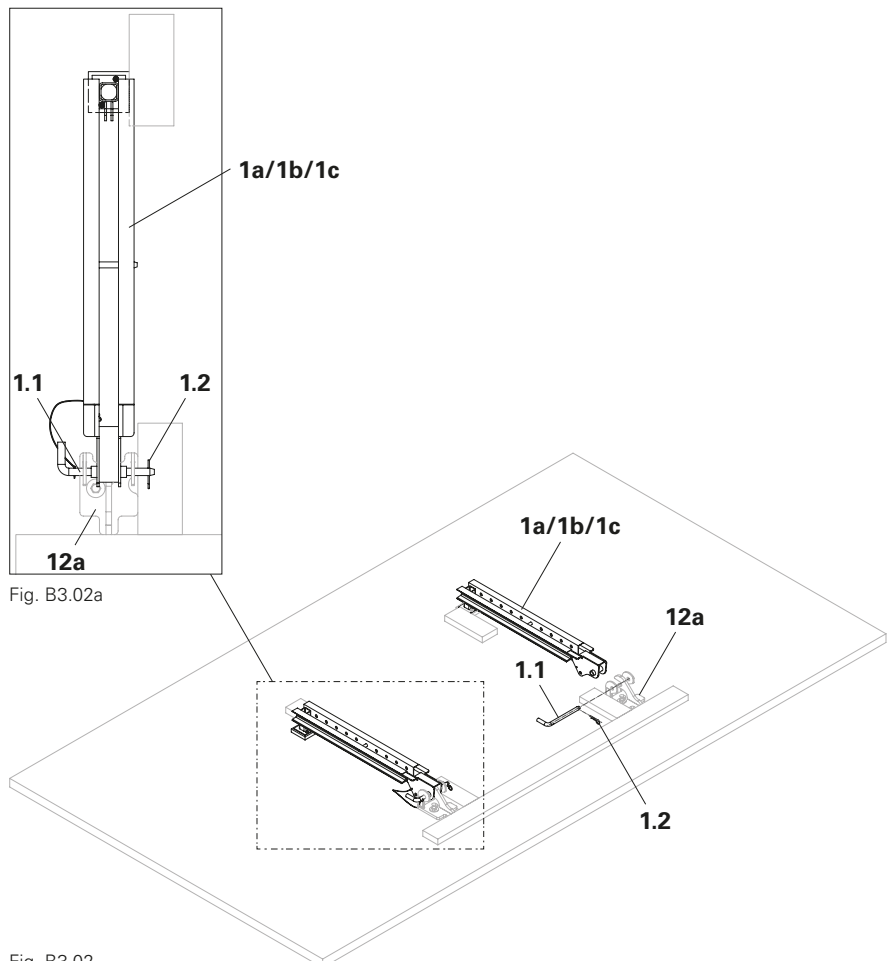

Fig. B3.02
1. Fit Bracket Post VGK (**1a/1b/1c**) onto Suspension Head VGK Flex (**12a**) with locking pin $\varnothing 20 \times 260$ mm (**1.1**), align and secure with Cotter Pin 4/1 ga (**1.2**). (Fig. B3.02 + Fig. B3.02a)
(Fig. B3.02 + Fig. B3.02a)